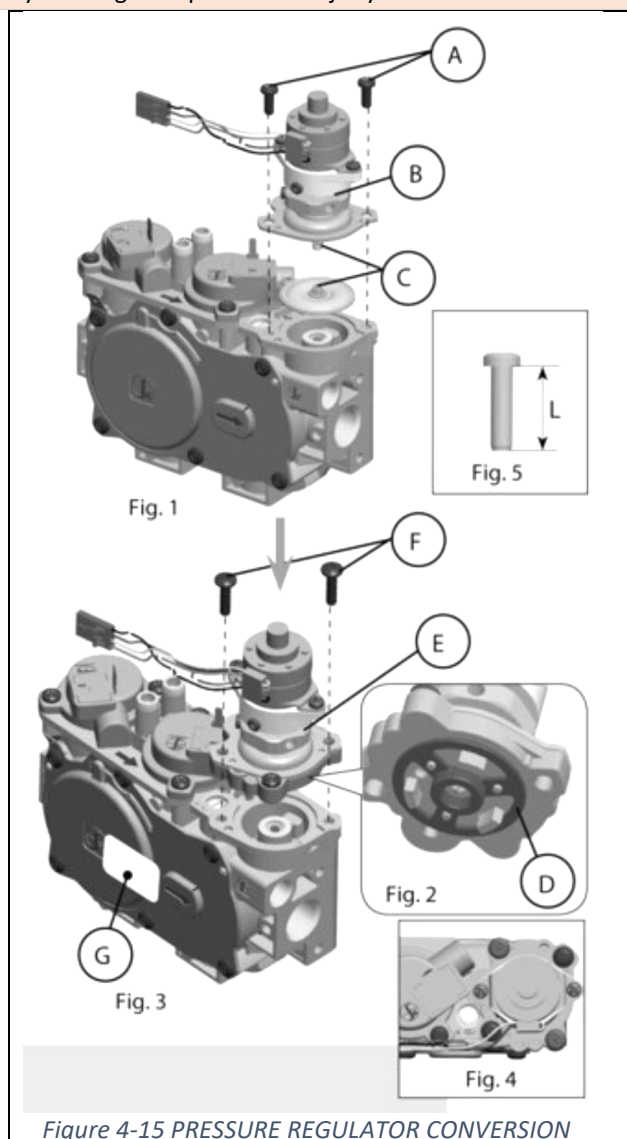

Figure 4-15 PRESSURE REGULATOR CONVERSION
2. See Figure 4-15- 2: Ensure the rubber gasket (D) is properly positioned. The rubber gasket is pre-fitted as part of assembly (E).
3. See Figure 4-15- 3 and Figure 4-15-4: Install the new stepper motor pressure regulator assembly. Use the provided screws (F), M4 x 0.7 threaded; length of thread $L = (16\text{mm} + 0 - 0.5\text{mm})$, steel material, resistance class 8.8 (Figure 4-15-5).
6. Install the enclosed identification label (G) to the valve body where it can be easily seen.